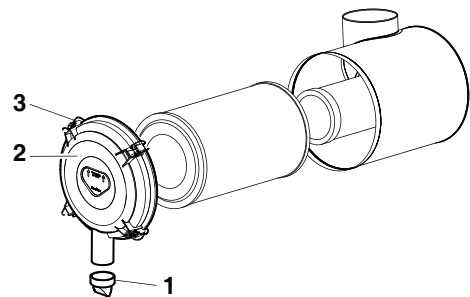

Figure 113
1. Open the side door of the machine, remove 6 latches (3, Figure 113), then remove cover.
2. Remove evacuator valve (1, Figure 113) from the air cleaner cover (2).